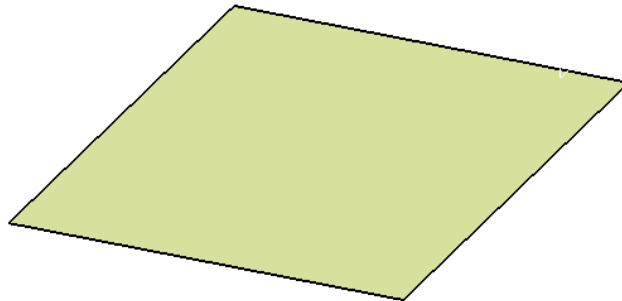

Figure 18-56 A planar surface
4. Keeping rest of the options as default in the **Unified Patch** dialog box, choose the **OK** button from this dialog box and close it. Figure 18-56 shows the resultant planar surface.